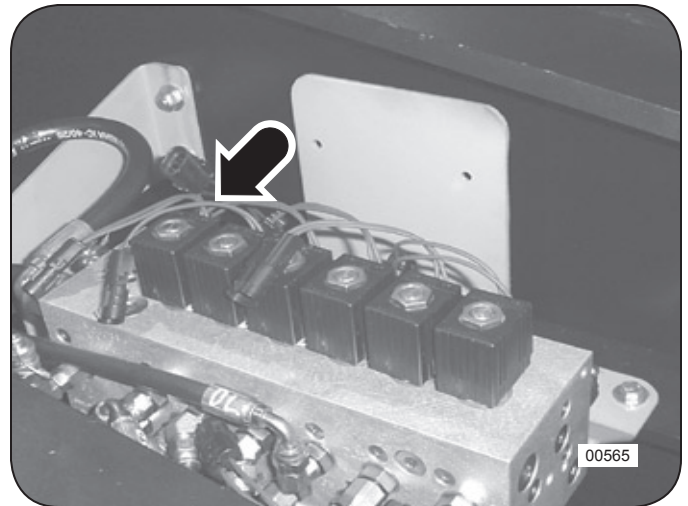

Figure 13: Lower Solenoid Manifold (TF 830 installation shown)
8. The mechanical null adjustment is made with a large setscrew in the control piston cover. See Figure 13. Use the 24mm wrench and 8mm allen wrench, to loosen the jamnut and turn the adjustment setscrew in and out until the gauge reads the lowest possible pressure.
3. Locate and disconnect the parking brake solenoid coil harness at the lower solenoid manifold. See Figure 13. This will prevent the parking brake from releasing.